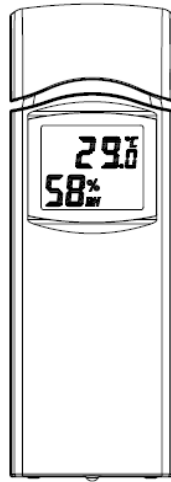

Figure 10
2. After inserting the batteries, the remote sensor will display temperature, humidity and barometric pressure on the display, as shown in Figure 10.